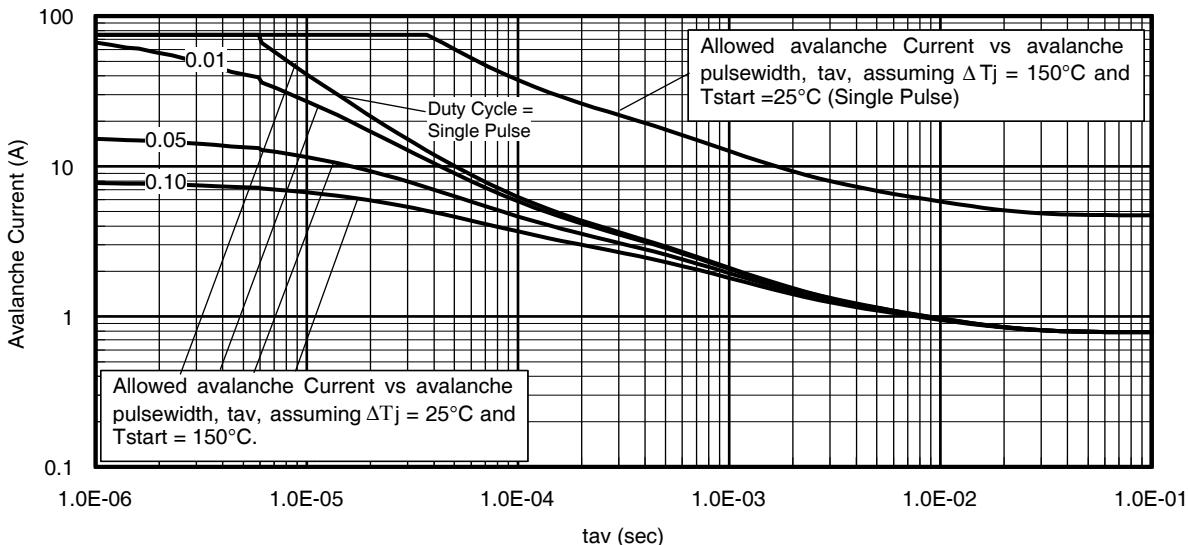

Fig 14. Typical Avalanche Current vs.Pulsewidth
7. ΔT = Allowable rise in junction temperature, not to exceed T_{jmax} (assumed as $25^{\circ}C$ in Figure 14, 15).